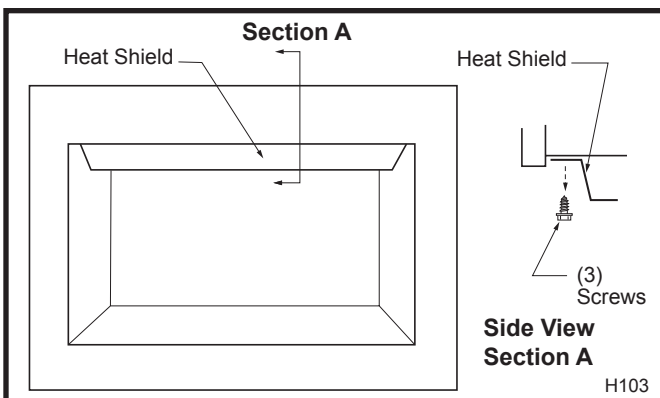

Fig. 36 Heat shield.
3. Remove three (3) screws securing heat shield to combustion dome. (Fig. 36)